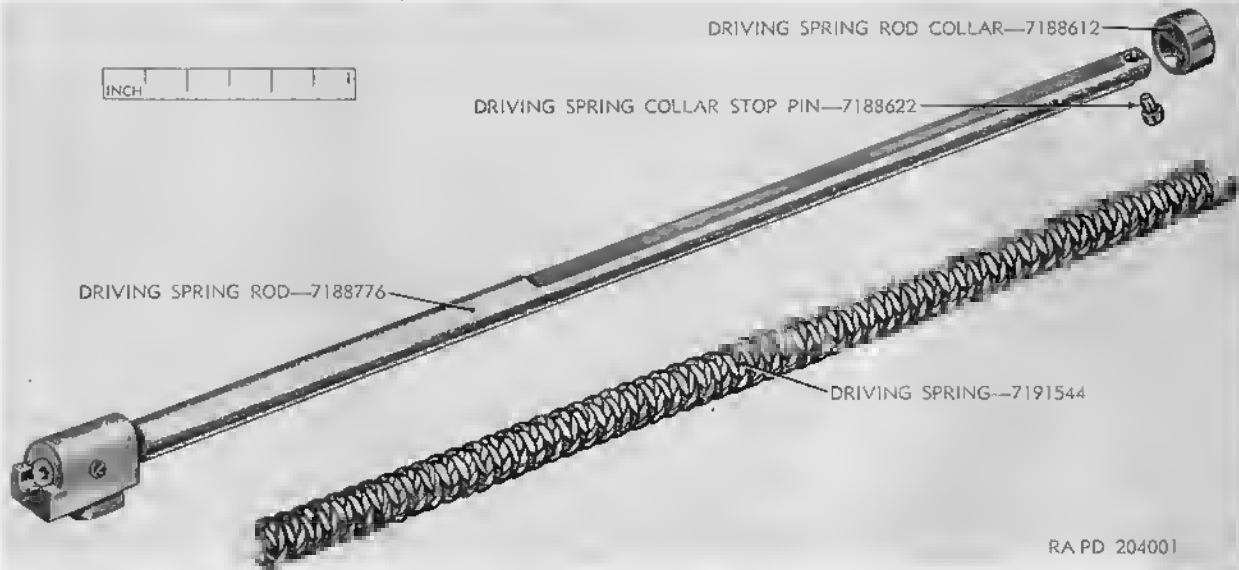
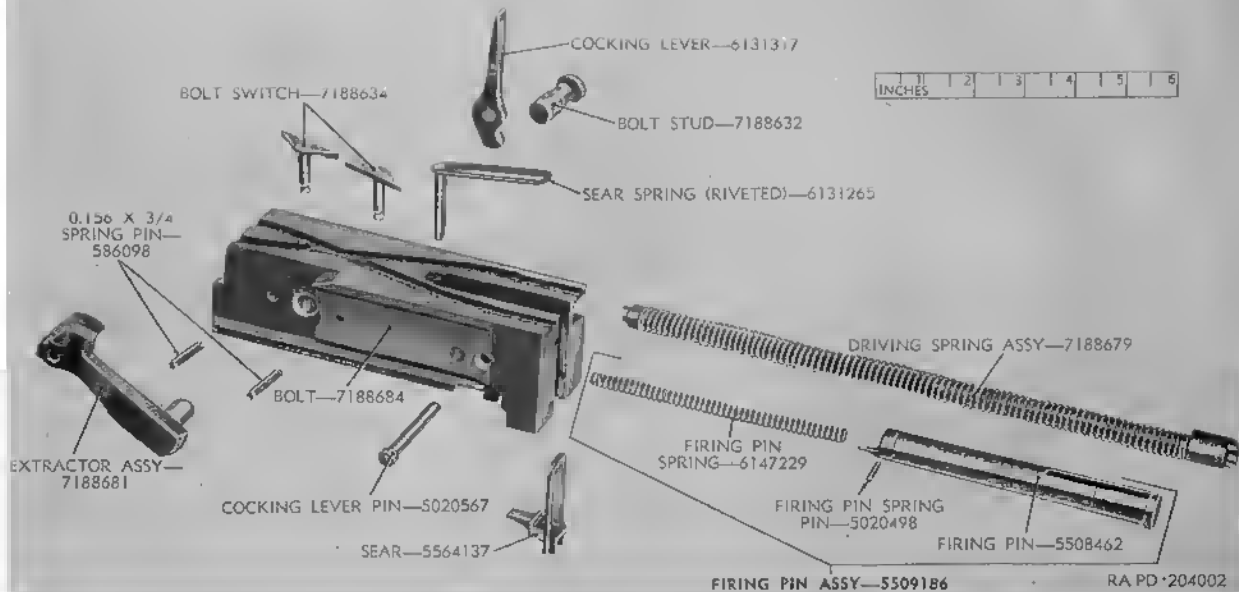

Figure 18. Driving spring assembly.
Figure 19. Bolt group—exploded view.
b. *Driving Spring Assembly* (fig. 18).
- (1) Remove staking over ends of collar stop pin and drift out pin.
- (2) Remove collar and driving spring.
a. *Bolt* (fig. 19).
- (1) Examine for cracks in the body and burs on the bolt guides.
- (2) Inspect to ascertain smoothness of the bolt rails.
- (3) Inspect smoothness of the cartridge T slot. It must be free from brass or other residue.
- (4) Inspect smoothness of the belt feed lever tracks in the top of the bolt.
- (5) Examine the recoil plate in the face of the bolt for carbon and corrosion.
- (7) To determine if the face of the bolt is set back, place a micrometer depth gage across the top of the lips of T slot and adjust the gage until it contacts the face of the bolt. This dimension should not exceed 0.126 inch.
b. Firing Pin Assembly (fig. 19).
- (1) Examine the firing pin point to see that it is not broken, burred, or damaged.
- (2) Examine the firing pin spring in the firing pin assembly to ascertain that it is strong and free and without rust or cracks.